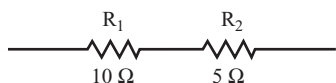

FIGURE 1.3
**9** You can connect resistors in series. Figure 1.3 shows two resistors in series.